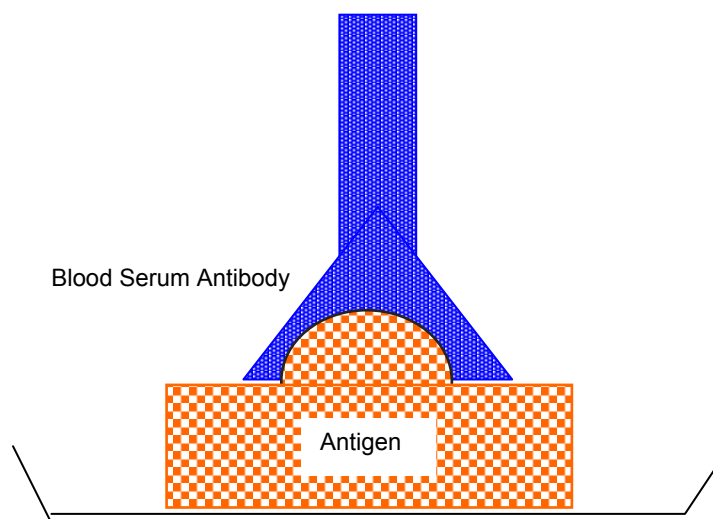

Fig.3.2
2) Step 2: The next layer is the blood serum sample that may contain the target antibody we are testing for. If the target antibody is present, it will bind to the antigen. Remember that antibodies show antigen specificity. Other antibodies present in the serum will not bind to this antigen and will be removed later by washing. See Fig 3.2